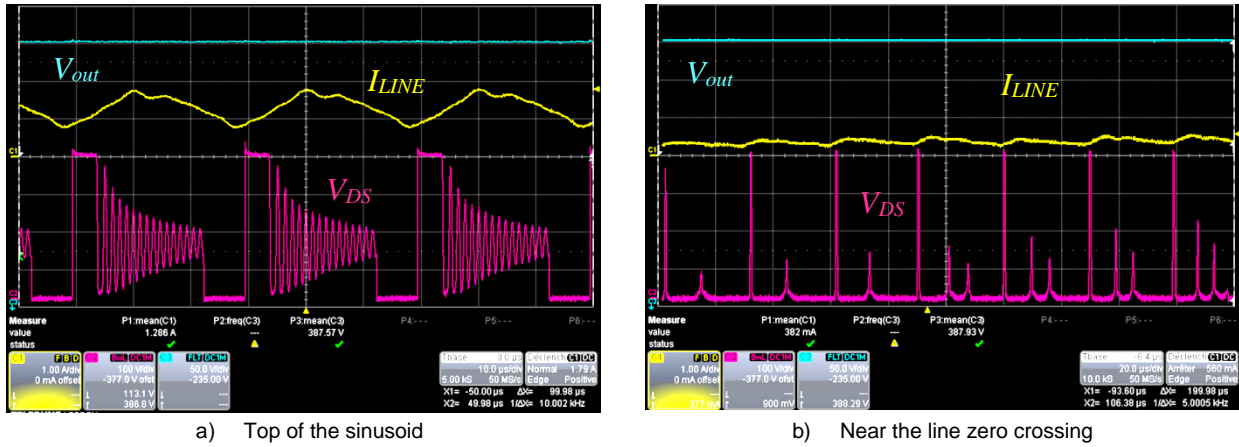

Figure 7. Low Frequency Operation at 115 V rms, 20% Load
- At 20% load, the NCP1618 frequency foldback makes the PFC stage operate at nearly 30 kHz. Note that the circuit continues turning on at the valley and that the number of valleys depends on the line instantaneous voltage. For instance, the number of skipped valleys is high at the top of the sinusoid where the resonant period is short while turn on in the second valley is obtained at the line zero crossing where the resonant period is long. See Figure 7. However, the NCP1618 always turns on at the valley as long as valleys are detectable.